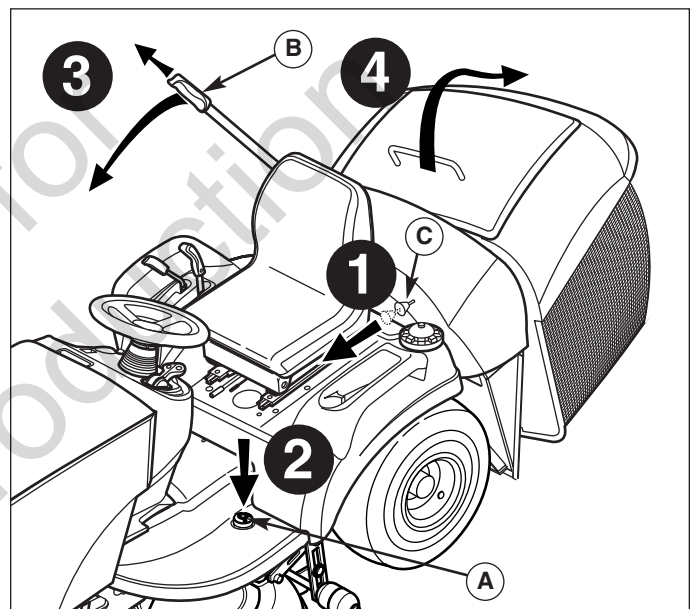

Figure 6. Emptying the Hopper
1. Move the catcher removal knob (C, Figure 6) forward to unlock the catcher from the rear support arms.
2. Depress the catcher dump lock pedal (A).
3. Use the catcher lever (B) to open the catcher slightly.